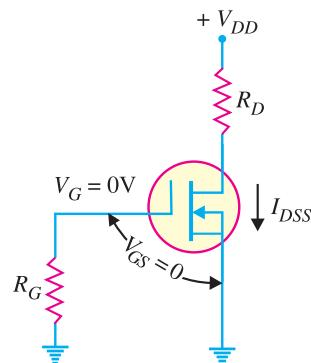

Fig. 19.51
We can use the simple circuit of Fig. 19.51 to provide zero bias. This circuit has  $V_{GS} = 0V$  and  $I_D = I_{DSS}$ . We can find  $V_{DS}$  as under :
**Example 19.32.** Determine the drain-to-source voltage ( $V_{DS}$ ) in the circuit shown in Fig. 19.51 above if  $V_{DD} = +18V$  and  $R_D = 620\Omega$ . The MOSFET data sheet gives  $V_{GS(off)} = -8V$  and  $I_{DSS} = 12\text{ mA}$ .